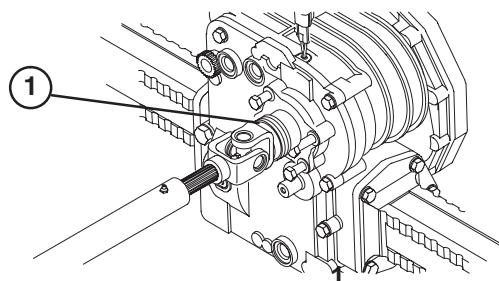

Figure 3
2. Slide coupler onto tractor PTO shaft until it clicks (Fig. 3).